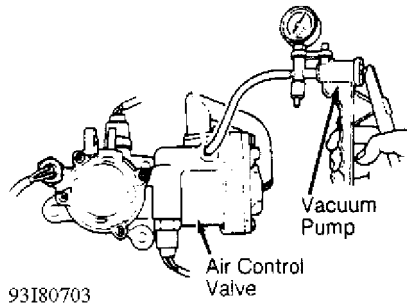

Fig. 60: Testing Air Relief Valve (RX7)
2) Apply about 19 in. Hg to air relief valve port. See Fig. 60. Ensure air relief valve opens. If air relief valve does not open, replace air control valve.